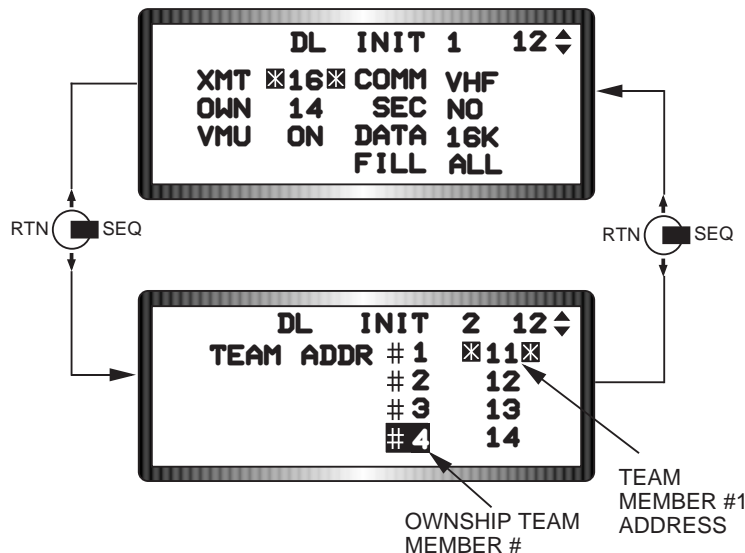

Figure 1-66 Team Address Entry
**Fill Option.** The FILL option on the DL INIT 1 page (See Figure 1-66) indicates whether the MMC will store or ignore the data received from A-G intraflight messages (markpoint, steerpoint, or Penguin data link targets). When the FILL option is ALL, the MMC stores the received markpoint or steerpoint message in steerpoint location 30 and Penguin targets in steerpoint locations 71 through 80. When the FILL option is NONE, the MMC ignores the messages and no HUD or VMU cues are issued.
**Intraflight Team Address Entry.** Team addresses (inflight positions) of up to four participating intraflight data link flight members are entered into the data link system on the DLNK INIT 2 page (Figure 1-66). They may be loaded from the DTC or manually using the UFC. Team addresses identify the individual ownership addresses of the participating flight members that will communicate with the intraflight data link system. Any number between 1 and 99 not ending in zero may be assigned as a team address as long as all flight members of the intraflight data link flight (two to four ship) have the same set of team addresses. However, team addresses are normally assigned according to flight call sign, i.e. 21, 22, 23, 24, etc., to simplify procedures. No two team addresses can be the same on the team address page. If a number is entered that is identical to an existing team address, the existing address is blanked to indicate that the team member position requires a different address.
When the pilot selects the DL INIT 2 page, his ownership team member (flight position) number is highlighted and the asterisks are positioned at the address of team member #1. His ownership address number from DL INIT 1 will be next to his team member number. For example, you are in a four ship flight with team addresses 11 through 14. If your ownership address is 14, the DL INIT 2 page will display the asterisks on address 11 and your flight position (4) will be highlighted followed by your ownership/team address (14) (Figure 1-66).